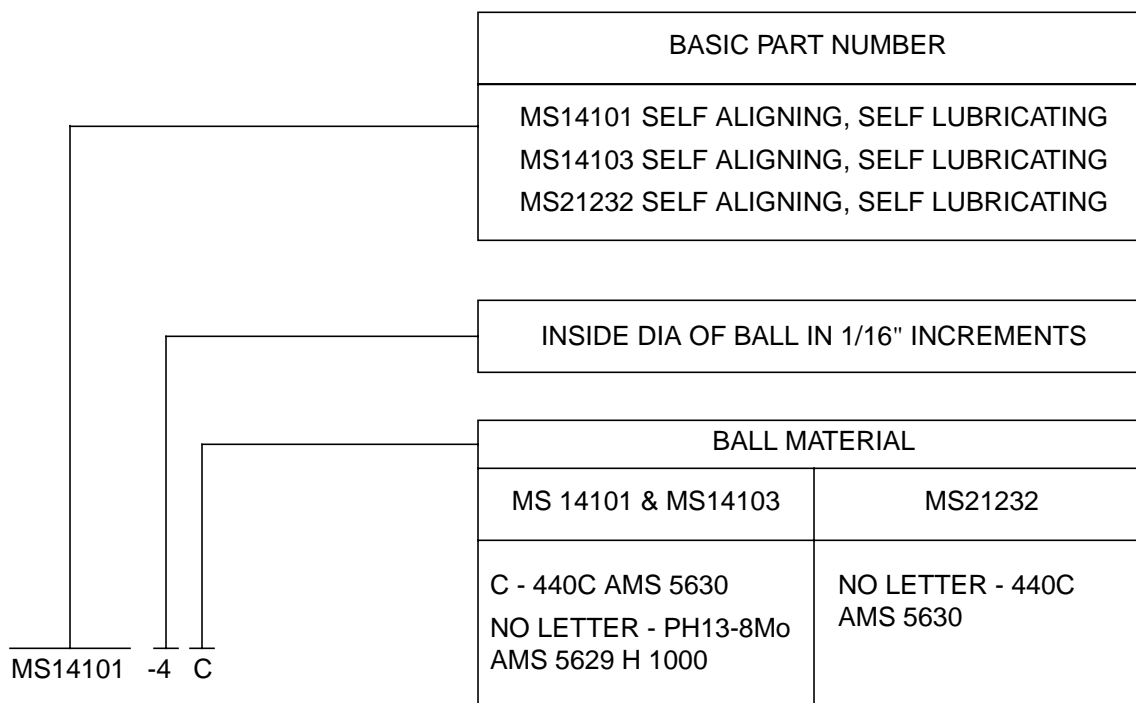

Figure 1 - Part Number Breakdown for MS Bearings
- 4.1.1 Self-aligning bearings as specified on the engineering drawing. Refer to Figure 1 for a breakdown of MS style bearing part numbers.